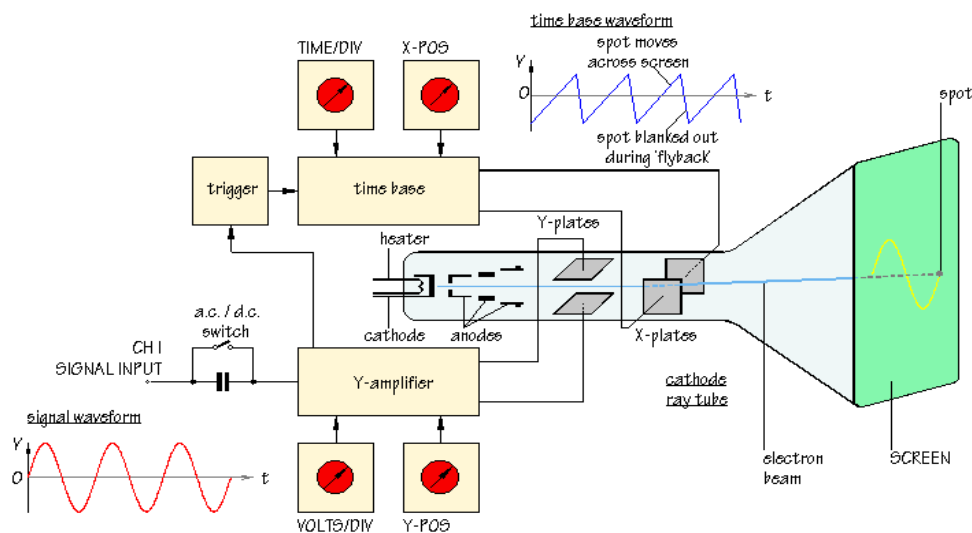

Figure 1.20: Cathode Ray Oscilloscope
- b. Cathode Ray Oscilloscope (CRO):** The device consists of a vacuum tube which contains a cathode; anode, grid, X&Y-plates and a fluorescent screen (Fig. 1.20 below). when the cathode is heated (by applying a small potential difference across its terminals), it emits electrons. having a potential difference between the cathode and the anode (electrodes), accelerate the emitted electrons towards the anode, forming an electron beam, which passes to fall on the screen. when the fast electron beam strikes the fluorescent screen, a bright visible spot is produced.